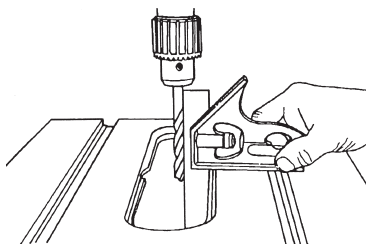

Figure 10
9. Set the Combination Square against the Drill Bit and Table, as shown in Figure 10. The Square should contact the Drill Bit along its entire length. When the Table is exactly perpendicular to the Drill Bit, lock the Table.